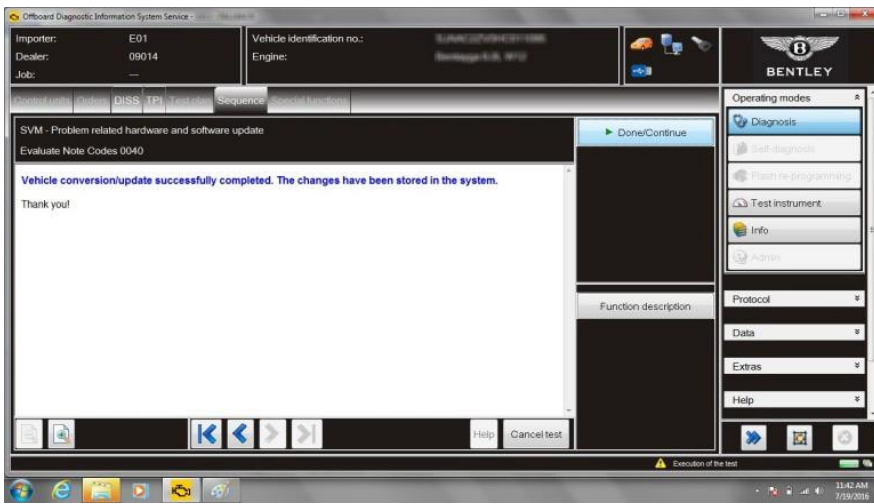

Figure 6
17. Select Done/Continue at successfully complete to finalise the update (see Figure 6)